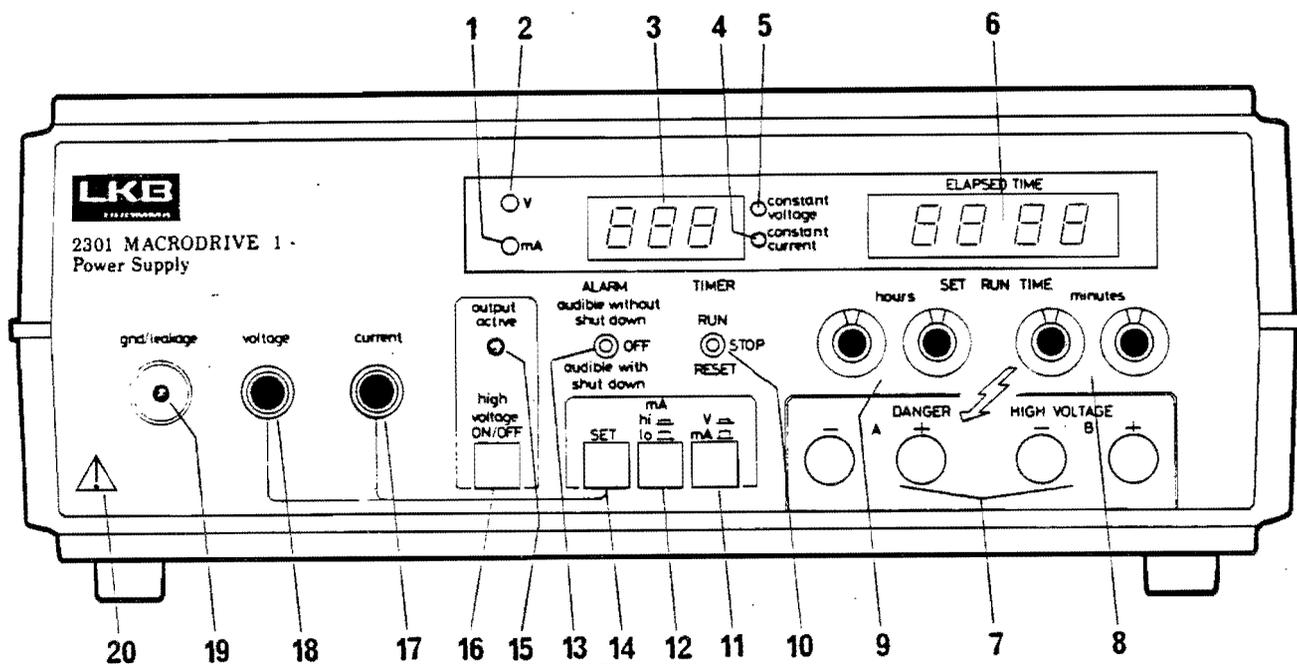
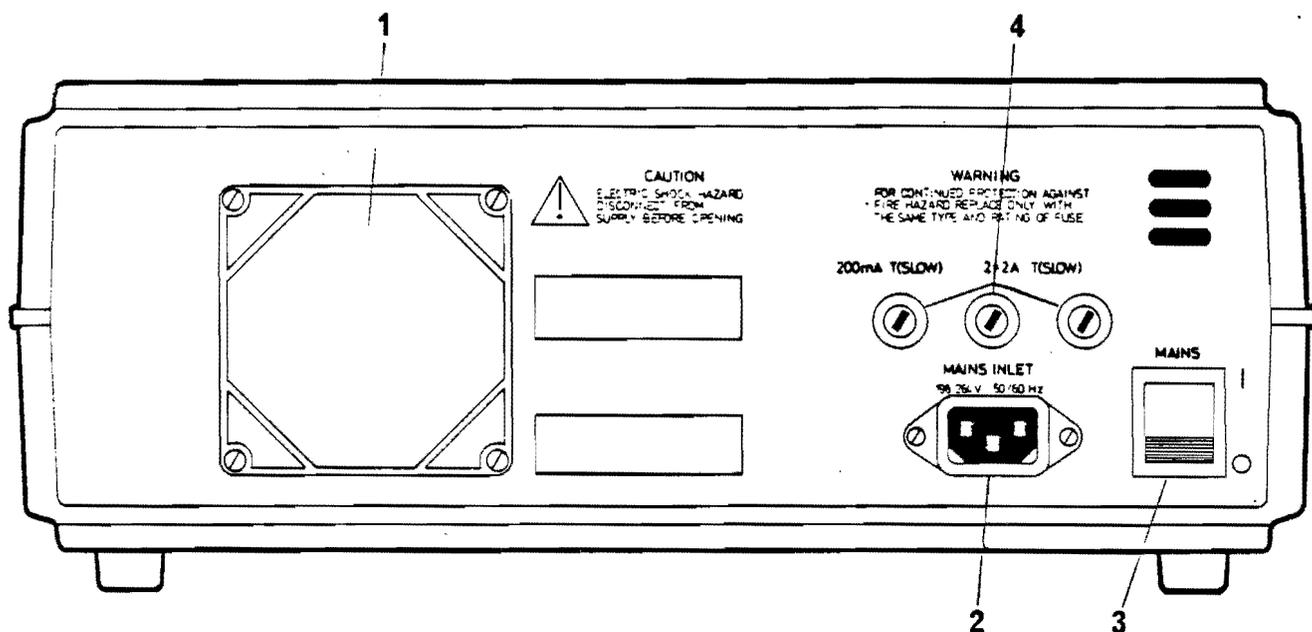

Fig.1
Fig.2
Please refer to Figure 1 for the front of the unit, and Figure 2 for the back.
Front Panel (Fig. 1)
Back Panel (Fig 2)
1. Check that the proper fuses (4 in Fig.2) are inserted on the back panel.
1. Switch on the Mains Switch (3, Fig. 2) at the back of the instrument.